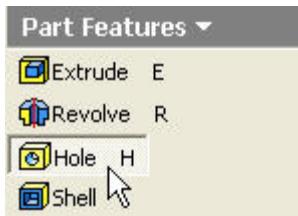
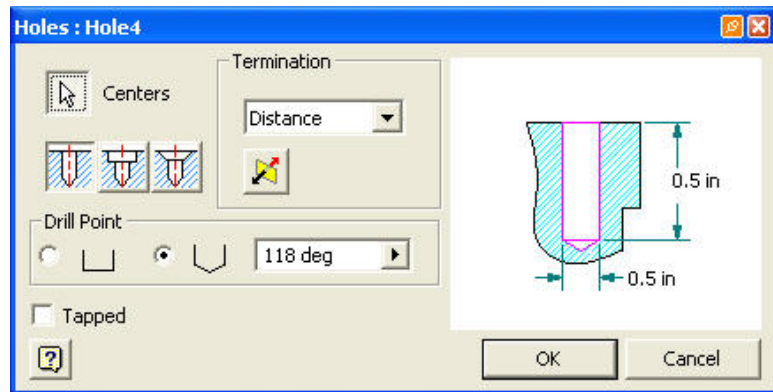

Figure 14
Figure 15
13. Click on the Return button to switch to the Part Features mode.. Select the **Hole** feature to open the hole dialog box as shown in Figure 14. Set the hole depth and diameter to 0.5 in. as shown in Figure15.